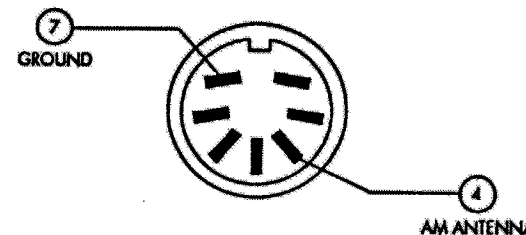

Fig. 4 AM ANTenna Din Jack.
7. Connect the Generator to an AM TEST LOOP (LEADER LPA-070). Note: The AM GENERATOR can be connected directly to the AM ANTENNA DIN Jack via a 220pF capacitor in series with the Generator. The AM ANTENNA DIN Jack is located on the Rear Panel of the unit. See Figure 4.
8. Tune the Generator and Tuner to 600kHz, then adjust Coils: (T1) - AM ANT; (T6) - AM RF and (8) AM MIXER for best sensitivity. Coil (T1)-AM ANT-is located on the CONTROL PCB/ Section 3.